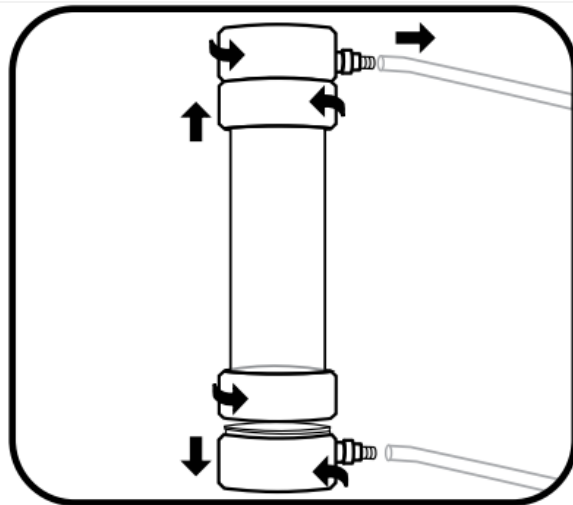

Figure 45. Disassemble Flow Cell
Disassemble the flow cell using Figure 45 for guidance.
**STEP 7** | Reassemble the flow cell using the reverse order from Figure 45. Make sure that the O-rings and stainless steel retaining rings are properly seated on the flow cell tube. Push the base of the flow cell onto the flow cell tube until it is firmly seated. This creates the watertight seal. Screw the locking ring on to the base by turning it clockwise; **do not use a tool and do not overtighten**.